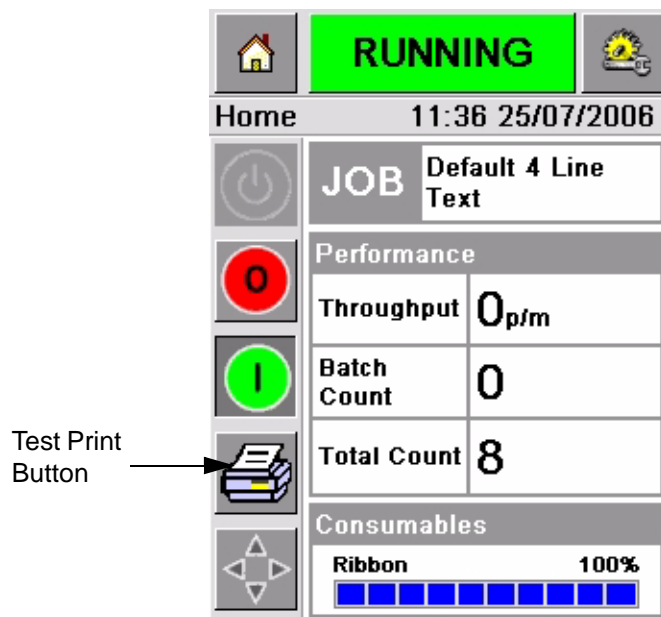

Figure 3-12: Test Print Button
A test image can be printed before running the printer to check if the printed image is of acceptable quality. The Test Print button (Figure 3-12 on page 3-10), will appear greyed out if this feature has been disabled by the installation engineer. Also, the printer must be set to
- 3 Touch the Test Print button in the CLARiTY's control frame (Figure 3-12). The printer performs the test print.